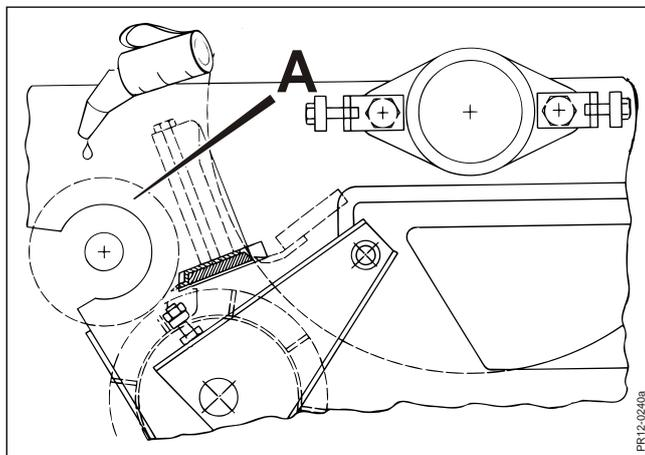

Fig. 7-7
**Fig. 7-7** The upper rear feed roller, the smooth roller **A**, should be secured against formation of rust on the surface. If the machine is not in use in a period of more than one day, the whole surface should be lubricated with a thin coat of oil.